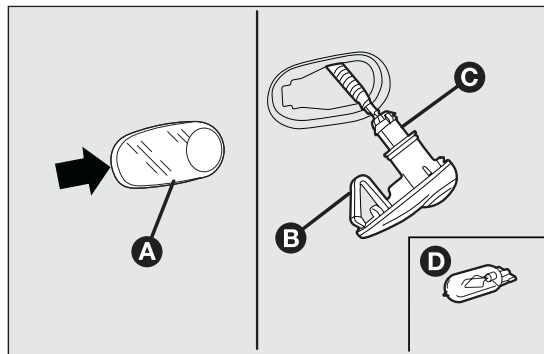

fig. 162
- ☐ adjust the lens A fig. 162 to compress in the internal catch B, then pull the cluster outwards;